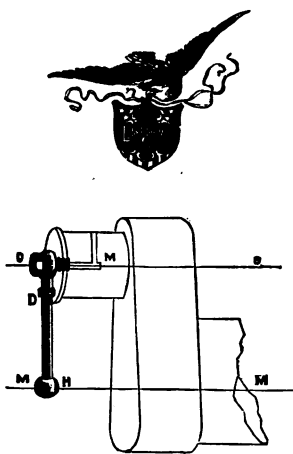

Fig. 508. Plain Oiler Arm.
THE PLAIN OILER ARM, FIG. 508, is intended to be used as an auxiliary to the crank pin cup, to afford an extra and direct means of lubricating the crank pin WHILE THE ENGINE IS IN MOTION, by squirting oil with an oil can through hole in ball (H). In ordering these give stroke of engine.